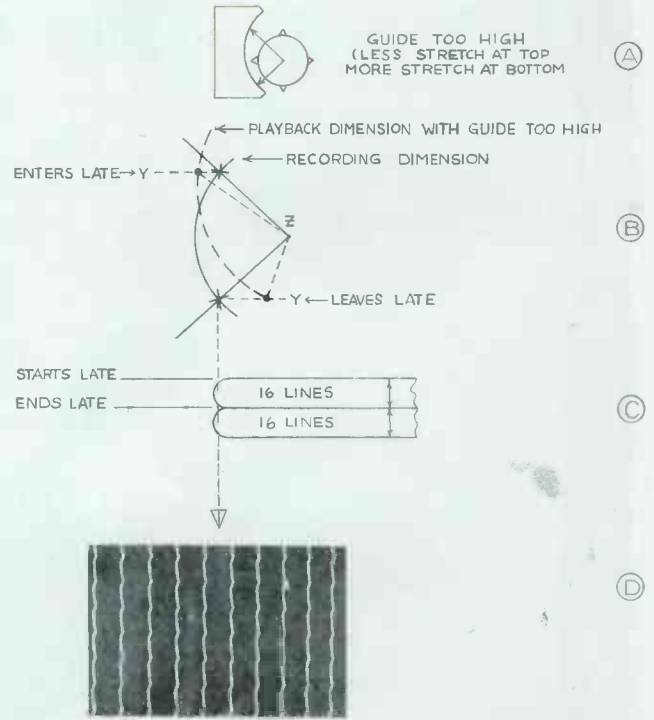

Fig. 13—Space distortion with vacuum guide too high.
(C) Shows effect on reproduced vertical lines in the video monitor. **Tape Vacuum Guide Too High (Fig. 13)**
(C) Each band of lines starts and leaves early, producing a scallop which is opposite to that of Fig. 13.